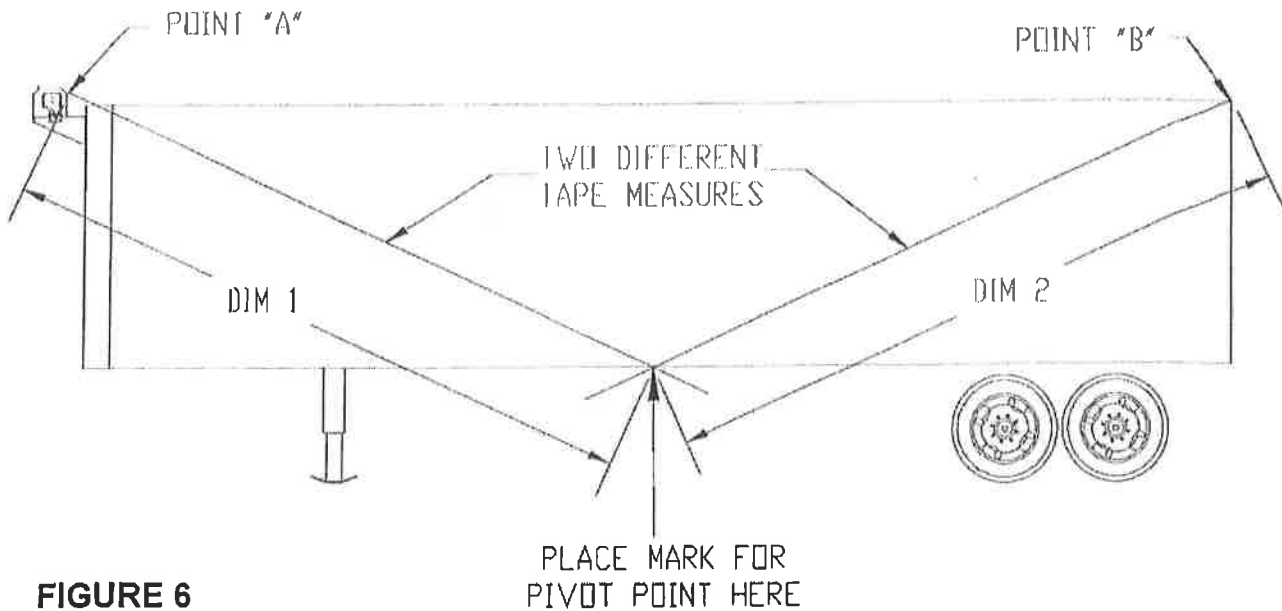

FIGURE 6
- To find the pivot point, pull one tape measure from point "A" (corner of housing assembly) and a separate tape measure from point "B" (rear of trailer). Cross the tape measures at the bottom-middle of the trailer body. Move point where the two tape measures cross until both distances (DIM 1 = DIM 2) on the tape measures are equal. Write down this dimension below to be used later. Mark the spot beneath the tape measures where they cross. This is your pivot point. (See Figure 6)
• Slide an upper bent tube into each end of the rear cross bar and into both arm extrusions. Adjust bent arms so that rear cross bar is centered between sides of trailer and parallel with rear of trailer. Rear cross bar should now be at point "B" as shown on Figure 6 on page 6.